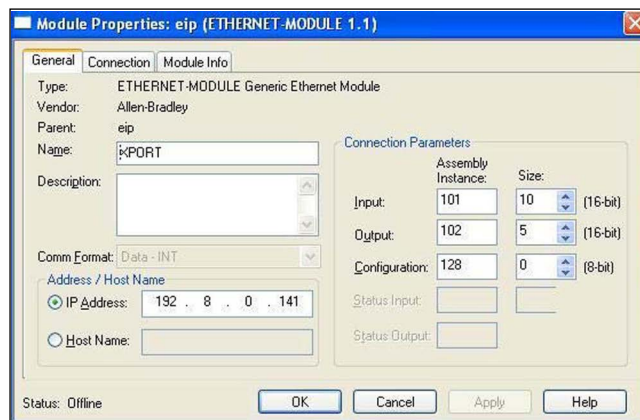

Figure 3-1. Module Properties (EtherNet/IP)
- If explicit messages are used and the PLC supports class 3 connections (with appropriate interface), insert the data shown in Figure 3-1.